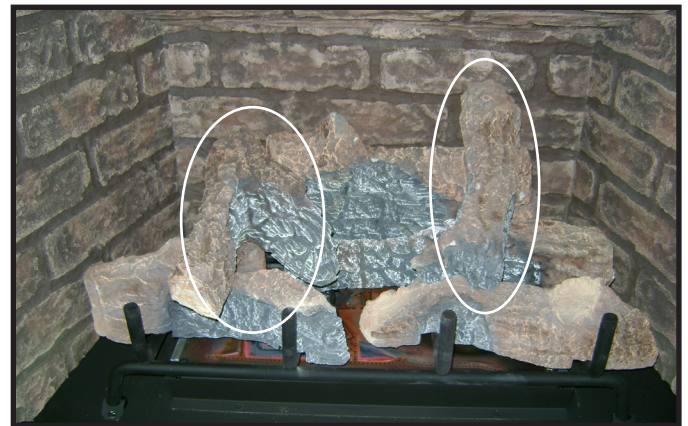

Figure 4.6 Remove Top Two Logs
4. Remove the two top logs from the log/grate assembly. These logs are not secured to the assembly with screws. See Figure 4.6.